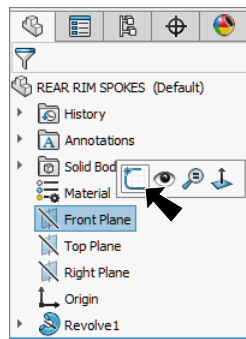

Fig. 8
Step 1. Click **Front Plane**  in the Feature Manager and click **Sketch**  on the context toolbar, **Fig. 8**.